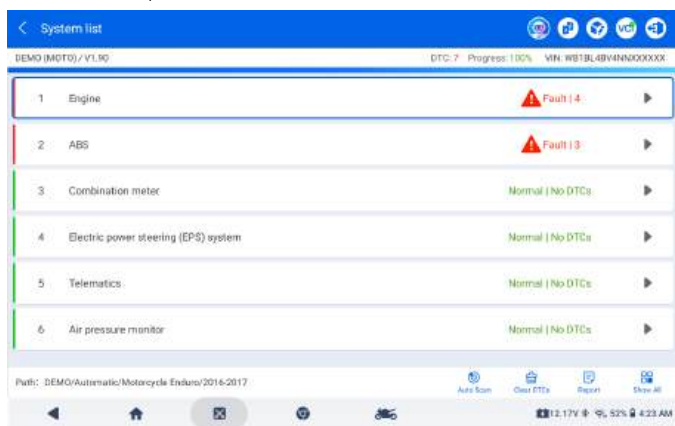

Figure 5-2
5. The results can be viewed in a list (see Figure 5-2). The List displays all systems configured on the vehicle. Systems with DTCs detected are marked with a red triangle and the number of DTCs, while systems without DTCs are labeled **Normal | No DTCs**.